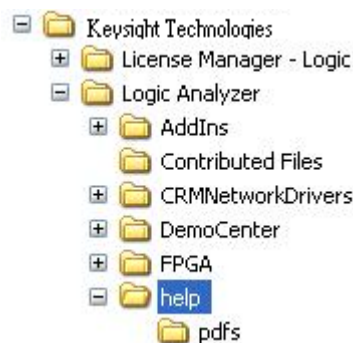

Figure 37 Location of User Documents
- Keysight Logic and Protocol Analyzer Online Help - This online help is accessible as a standalone help from the help folder displayed in the Figure 37 or from the Keysight Logic Analyzer GUI (as an integrated help). It describes how to configure, control, and use the module hardware to perform testing in various scenarios.